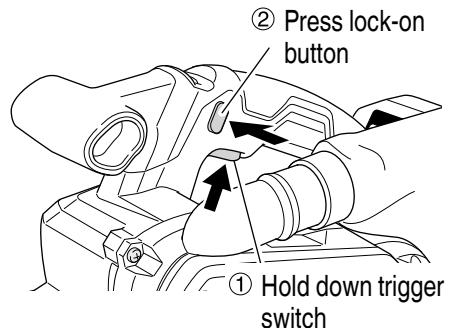

Fig. 14
5. Switching the sander ON and OFF (**Fig. 14**)
(Fig. 14)